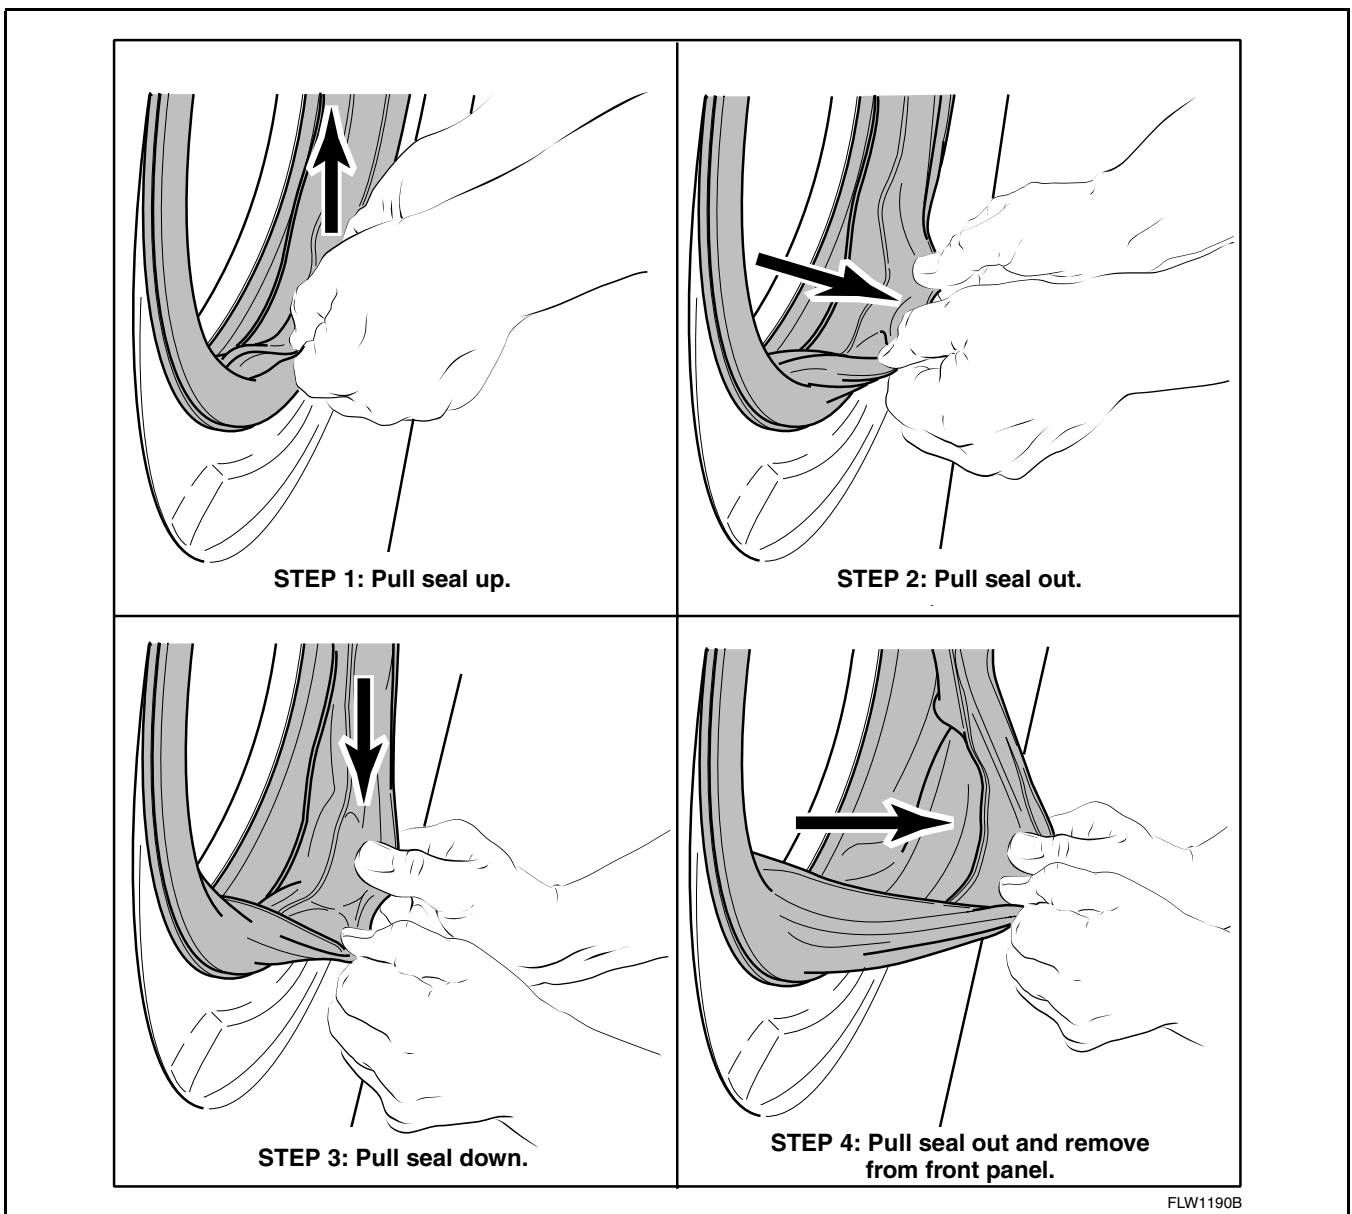

Figure 14
- b. Grasp loading door seal lip. Refer to *Figure 14, Step 1*.
- c. Using a circular motion, pull seal up (*Figure 14, Step 1*), out (*Figure 14, Step 2*), and down (*Figure 14, Step 3*).
- d. When seal releases from lip of front panel, pull out and remove the seal from front panel around door opening. Refer to *Figure 14, Step 4*.
- c. Grasp loading door seal lip. Refer to *Figure 14, Step 1*.
- d. Using a circular motion, pull seal up (*Figure 14, Step 1*), out (*Figure 14, Step 2*), and down (*Figure 14, Step 3*).
- e. When seal releases from lip of front panel, pull out and remove the seal from front panel around door opening. Refer to *Figure 14, Step 4*.